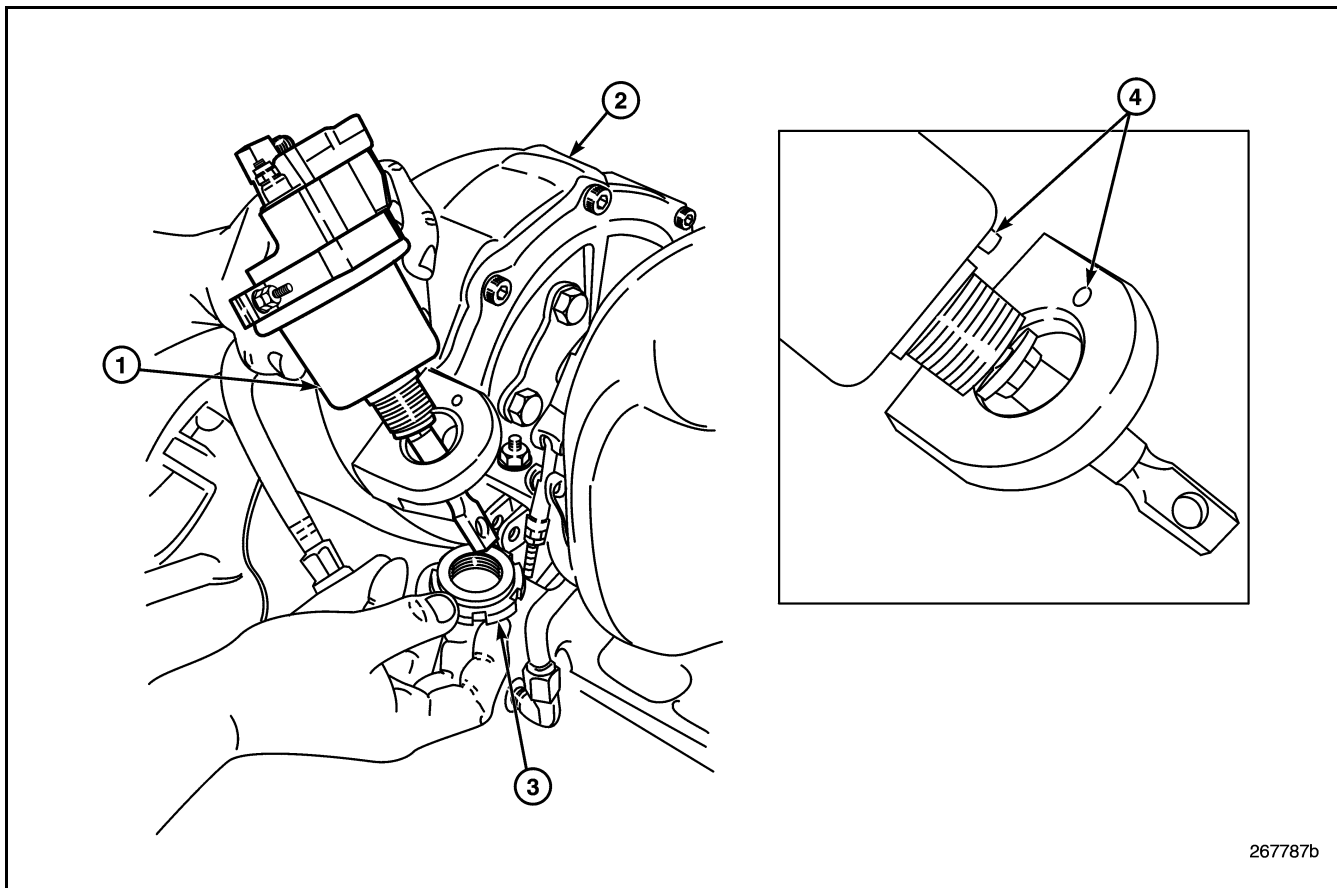

Figure 524 — VTG Actuator Installation
1. Place the VTG actuator assembly in position on the mounting flange at the center of the turbocharger. Make sure the alignment pin is positioned in the hole on the flange (Figure 524).